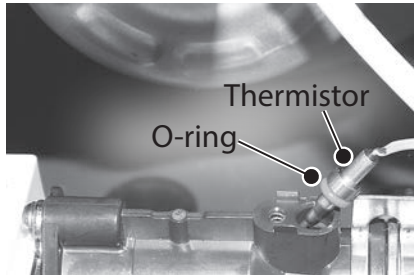

Figure 69 - Thermistor O-ring installation
- 28** Locate the new thermistor, metal clip, and O-ring provided in the kit. Install the O-ring on the thermistor. See Figure 69.